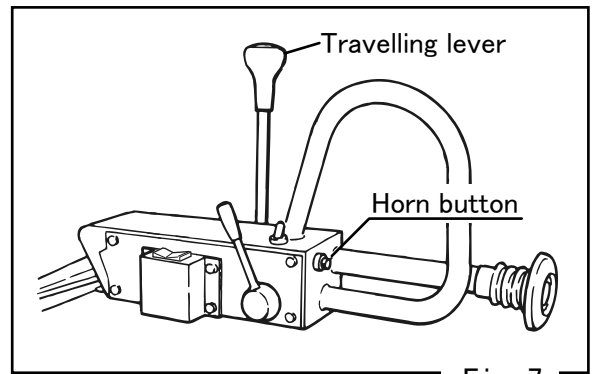

Fig. 7
- Check each lever and wire (travel, throttle) for proper function.(Fig.7)
- Press horn button to check for proper function. (Fig.7)
- With throttle lever fully opened, increase the engine rotation. (Fig.7)
- With travel lever and vibration lever placed in neutral and OFF position respectively, return throttle lever to START position before conducting cool down run for 3 to 5 minutes. (Fig.7, 8 and 19)